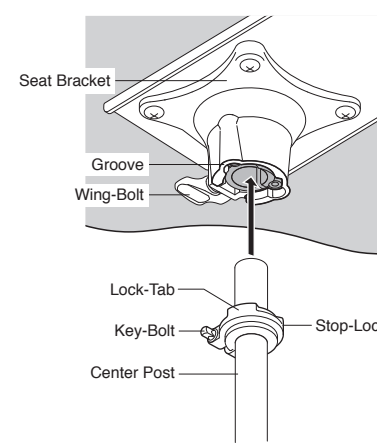

Fig. 2
3. Mount the Seat on the Center Post, align and insert the Lock-Tab of the Stop-Lock into the Groove of the Seat Bracket as shown (Fig. 2).